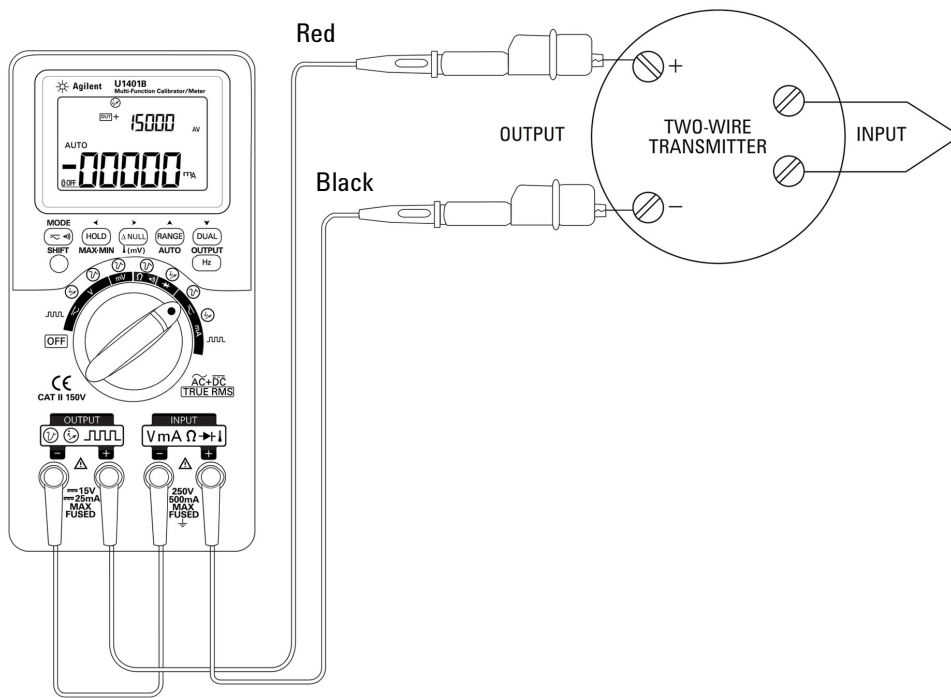

Figure 5-16 Verifying a two-wire transmitter
- 2 Connect the red alligator lead between the positive output terminal of the instrument and the positive output terminal of the two-wire transmitter. Refer to Figure 5-16 on page 114.